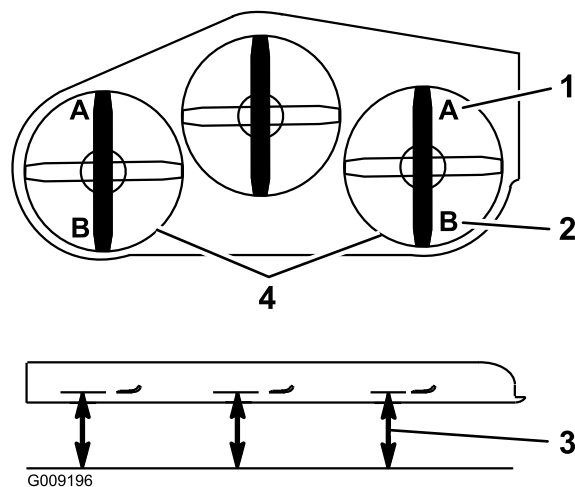

Figure 88
9. On both sides of the deck, measure from the level surface to the front tip of the blade (Position A). The measurement should read 3 inches (7.6 mm) (Figure 88).
- On both sides of the deck, measure from the level surface to the back tip of the blade (Position B). The measurement should read 3 1/4 inches (8.3 cm) (Figure 88).